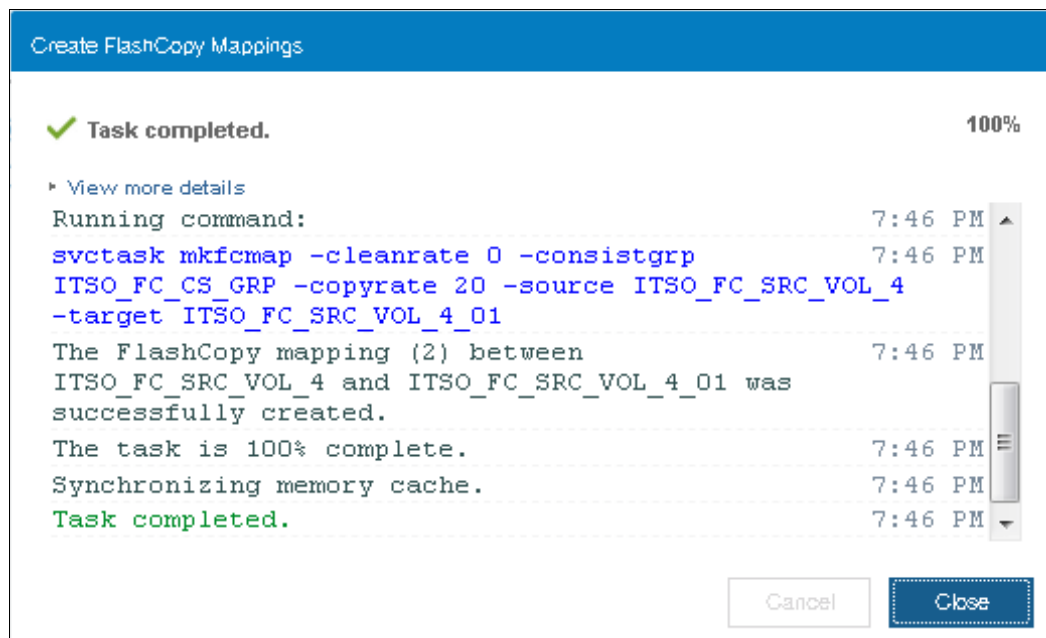

Figure 10-29 FlashCopy map and target volume created
8. Click **Finish** and you will see a window indicating the status of the operation as shown in Figure 10-29 on page 492.